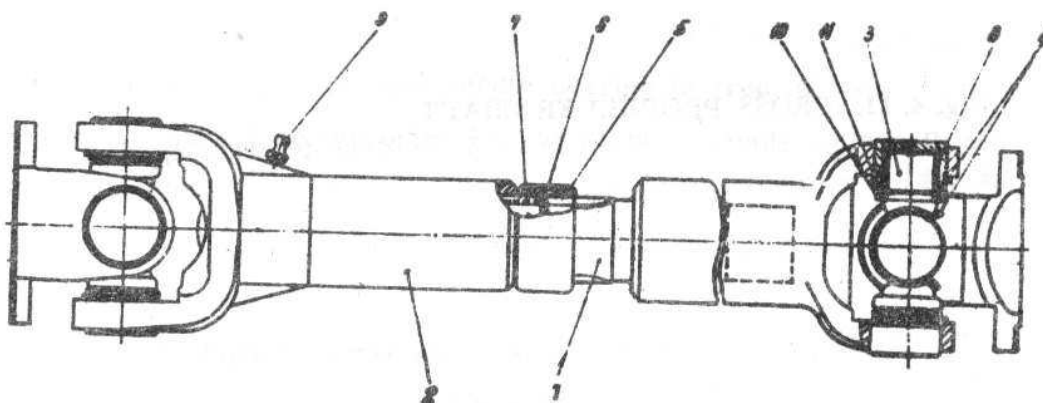
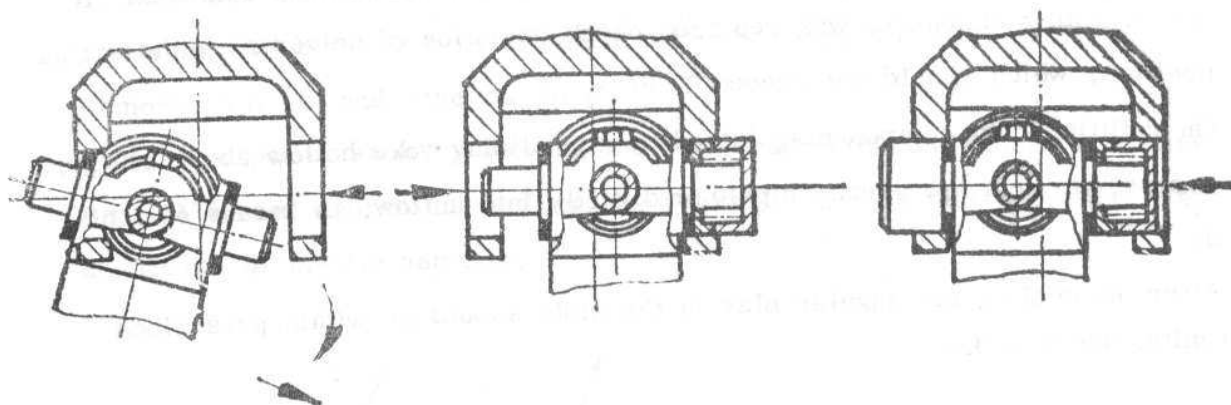

Fig. 4.110. LONGITUDINAL PROPELLER SHAFT
Fig. 4.112. DISMANTLING NEEDLE BEARINGS SPIDERS
For longitudinal propeller shaft this operation is performed on both shaft ends. (see Fig. 4.110).
- Remove snap rings (4) - see Fig. 4.110 - from spider journals, using special S 119 pliers or a hammer and drift.
- Extract needle bearings (8) from bores in yoke and flange as follows: yoke or flange being fixed in a bench vice, press with S 120 extracting device on a needle bearing until opposite needle bearing is free of bore. Then press on spider to make free the other bearing.
- Repeat operation with the other two needle bearings (see Fig. 4.112).